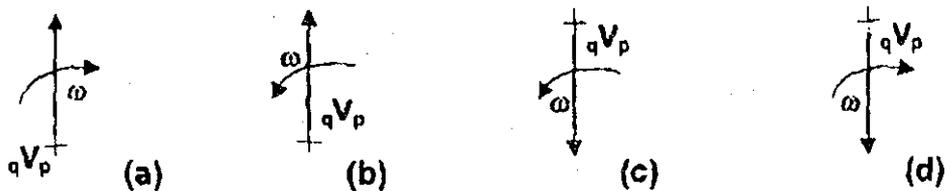

Fig.6
(ii) Identify the direction of Coriolis component for the given velocity vector ${}_qV_p$ that rotates at an angular velocity ω (Fig. 6). (4)